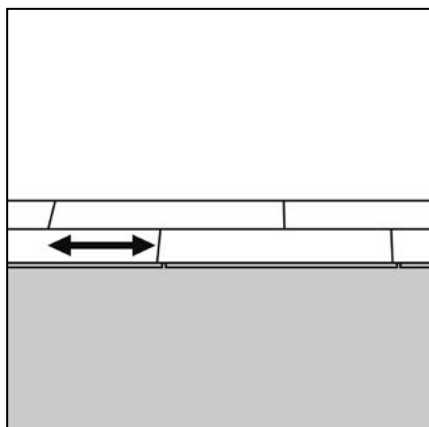

Figure 5 Stagger the short joints min 150mm
- ▶ Always try to stagger the short joints approx. 150mm from the nearest short joint in the previous row (fig 5). Do not forget to include the required expansion gap to the wall.